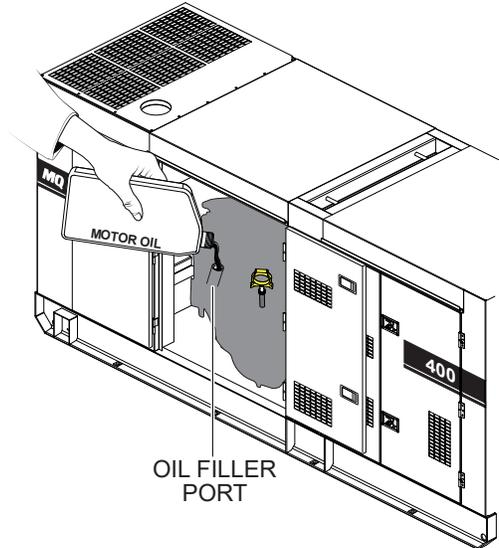

Figure 27. Engine Oil Filler Port
5. If the engine oil level is low (Figure 26C), remove the cap from the **oil filler port** (Figure 27) and fill to a safe operating level (max) as indicated by the dipstick (Figure 26A). Fill with the recommended oil type listed in Table 9. Maximum oil capacity is 15.1 gallons (57 liters).